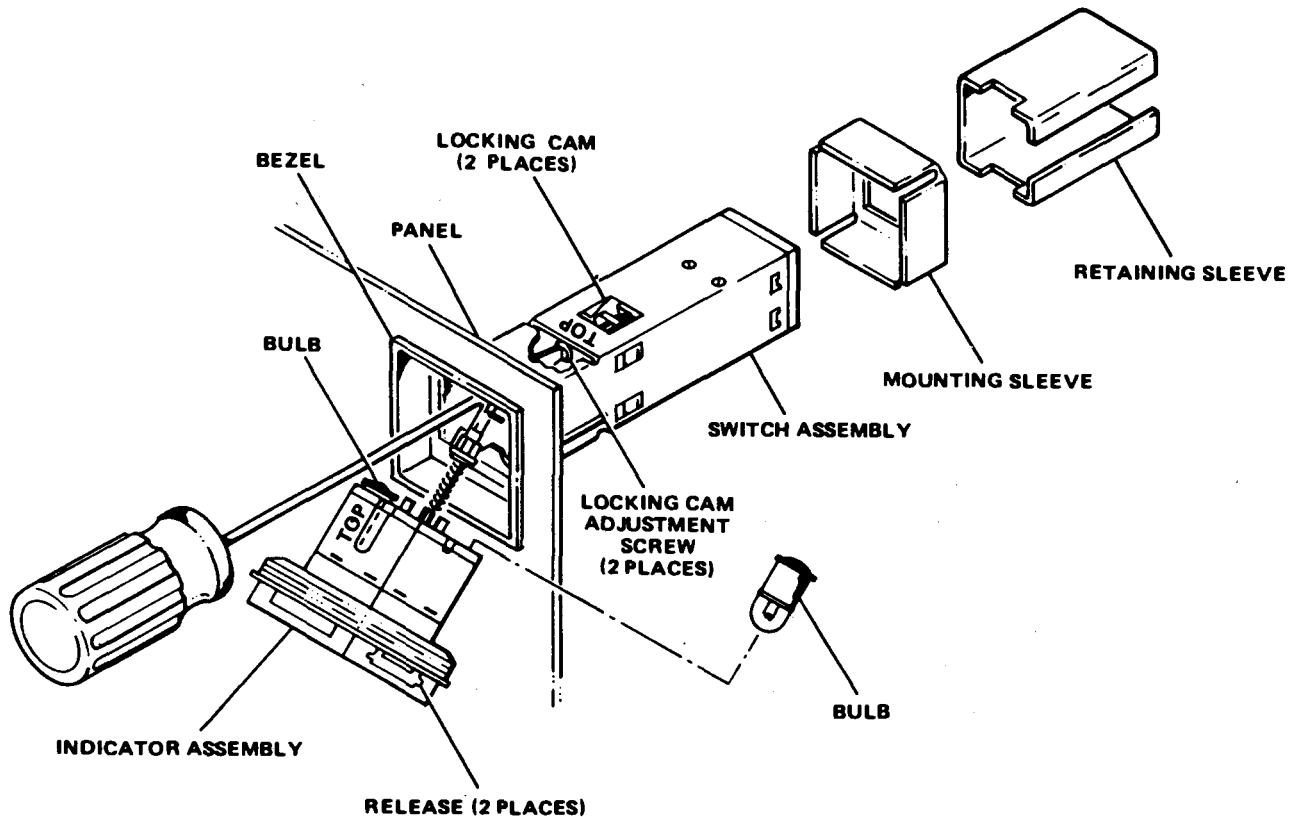

Figure 5-3. Switch/Indicator Assembly
- (1) Remove front panel as required to gain access to the rear of defective switch/indicator. Refer to paragraph 5-10d.
- (2) To remove the indicator portion of the switch/indicator (figure 5-3), grasp the edges and pull straight out.